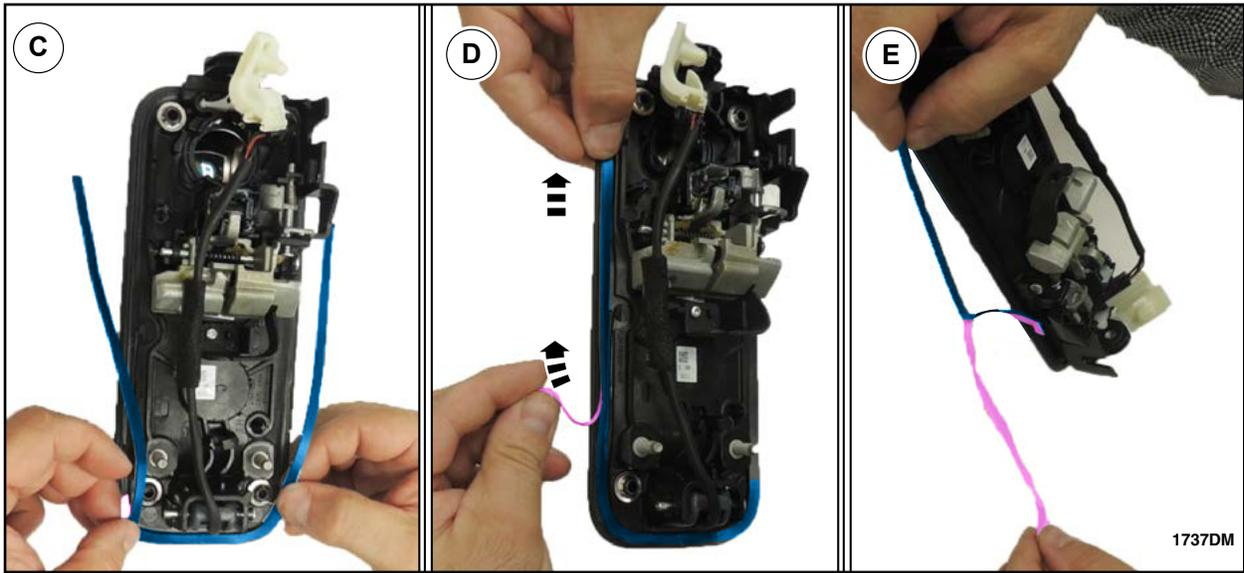

FIGURE 59
- C. Align the marks made on the Foam K and exterior door handle and adhere the back center portion to the exterior door handle as shown in Figure 59.
- D. Lay one side of Foam K down on the exterior door handle and without stretching the foam pull off the adhesive backing as you adhere Foam K to the exterior door handle as shown in Figure 59.
- E. Remove the protective backing from the other side leg of Foam K as shown in Figure 59.